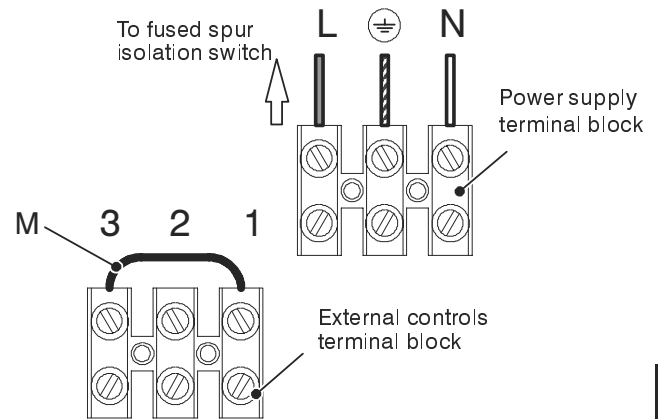

Fig. 6.11
6 Connect the electrical supply flexible cord coming from the fused spur isolation switch to the power supply terminal block of the boiler (Fig. 6.11) keeping the same connections for the live (brown wire) and the neutral (blue wire). External 3 A fuse or fused plug with same current rating is recommended.
**When connecting any type of external control, the link M in Fig. 6.11 must be removed.**